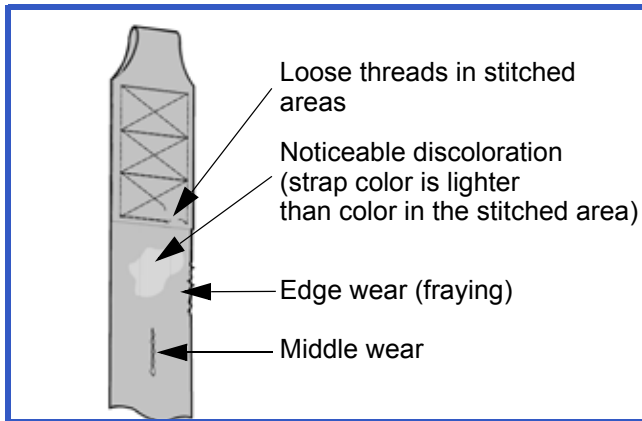

Fig. 36
- 2) Look for any signs of wear or discoloration (see Fig. 36).